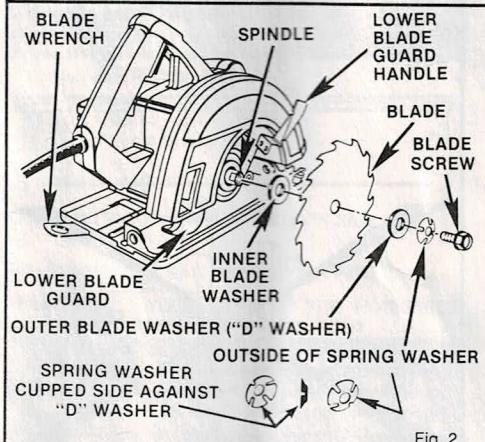

Fig. 2
See Figures 2 and 3.
5. Fit saw blade inside blade guard and onto spindle. NOTE: The saw teeth point upward at the front of saw as shown in figure 2.
6. Replace "D" washer and spring washer. NOTE: "Cupped" side of spring washer goes against "D" washer. See Figure 2.